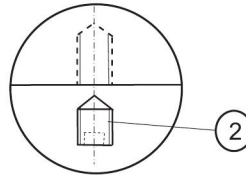

Abb.5
③. Loosen threaded nut with tool item no. 980 5422 000. (Fig. 5) max. 1 revolution anticlockwise./
④. Set the desired swing torque by tightening the threaded nut (fig.5)